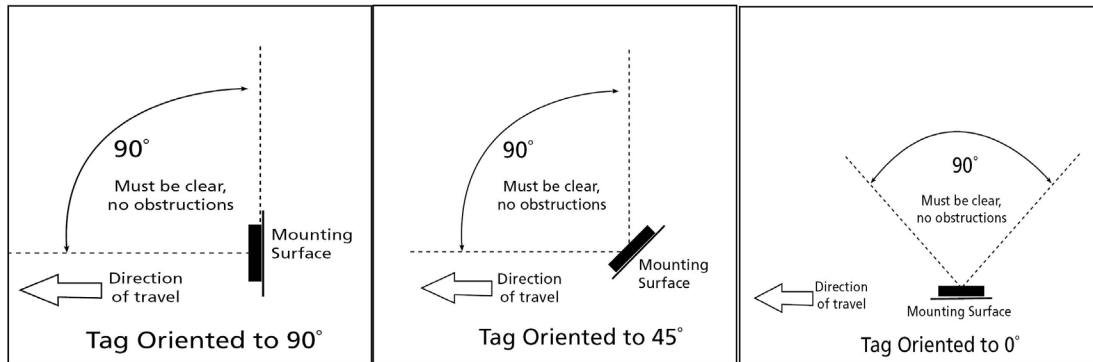

Figure 22 Guidelines for exterior tag placement
1. The outward-facing side of the tag should be pointed toward the front of the vehicle. Position the tag so that no part of the vehicle hangs over the tag. The tag should have a minimum field-of-view of 90 degrees. Refer to Figure 22 for correct tag placement.